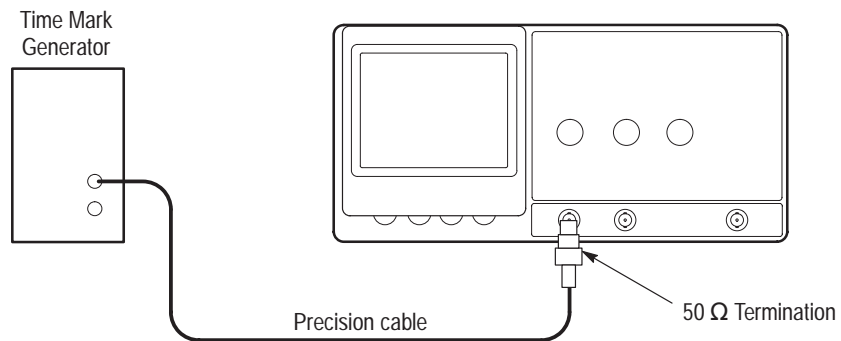

Figure 4: Timing check setup
1. Use the 50 Ω precision coaxial cable to connect the output of the time mark generator to the 50 Ω termination; then connect the 50 Ω termination to the TAS 200 series instrument CH 1 input. See Figure 4 below.